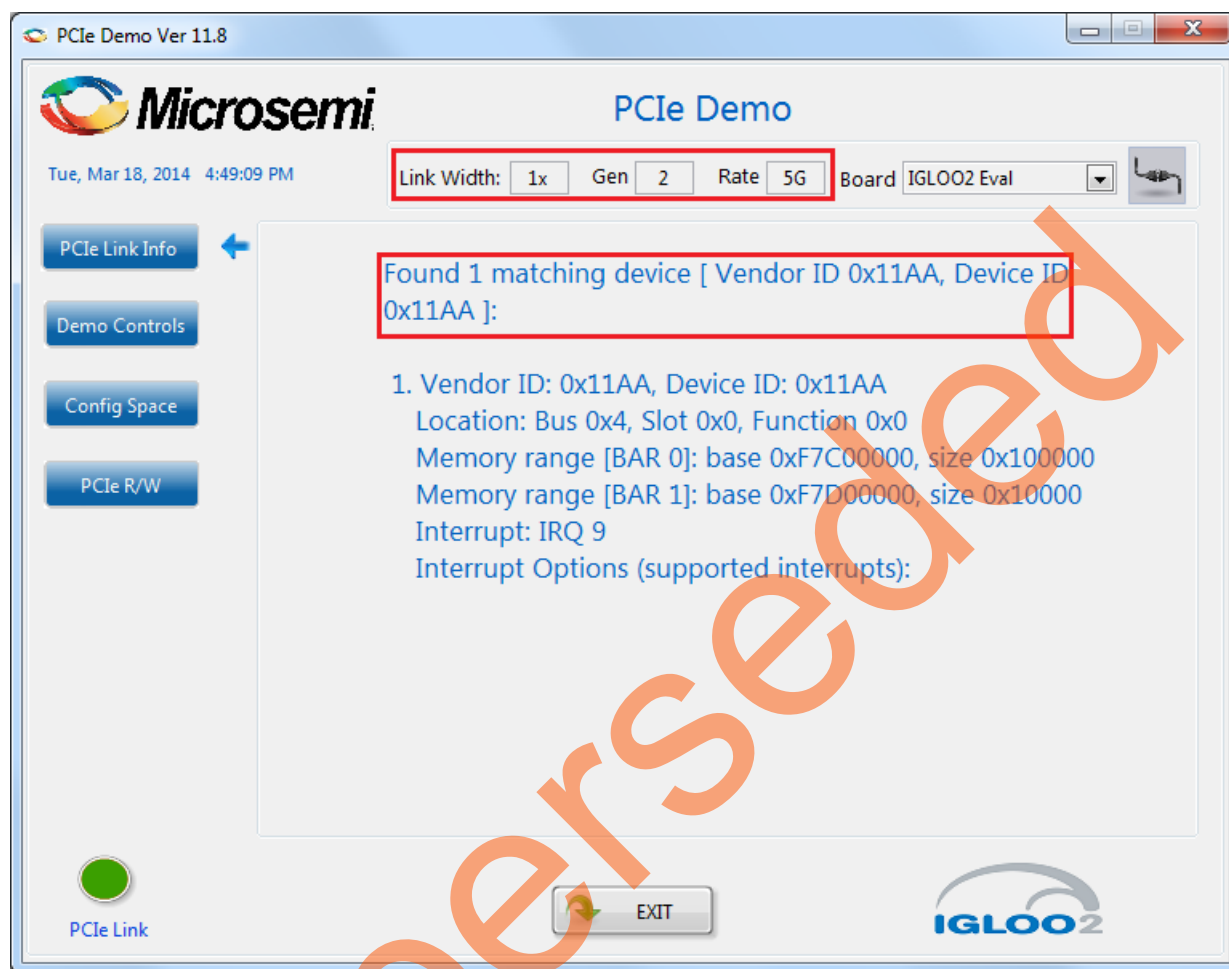

Figure 56 • Version Information
- Click the **Connect** button at the top-right corner of the GUI. The messages are displayed on the GUI as shown in Figure 56.